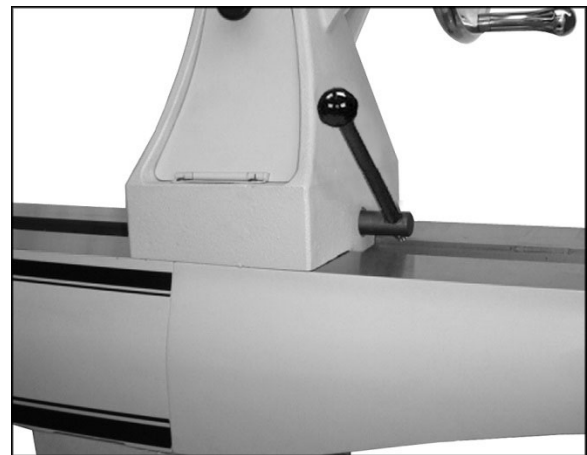

Figure 8
2. Slide tailstock over joint where beds meet, so that clamping nut is centered over joint (Figure 8). Lock tailstock clamping handle; this will align the beds.